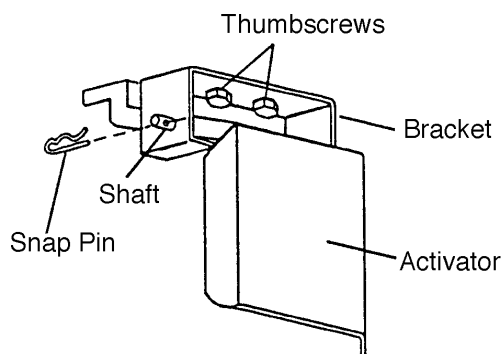

Fig. 7
- 3) Remove the Bin Control Bracket Assembly. See Fig. 7